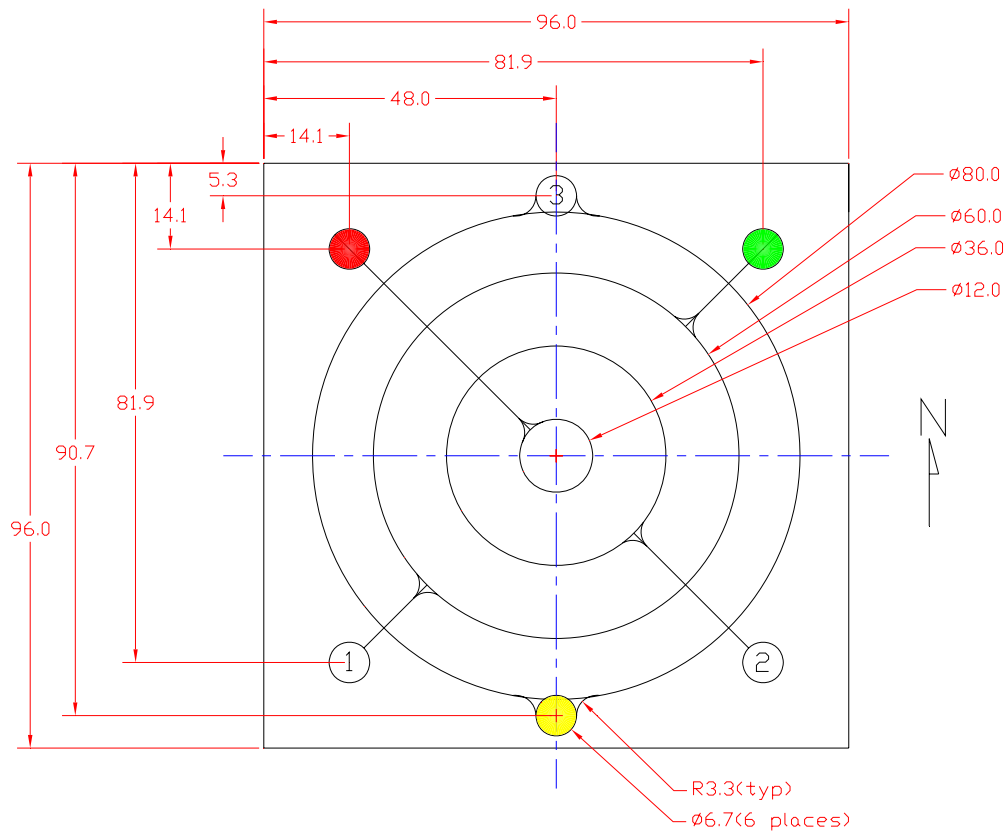

Figure 1 “Solar System” course layout (dimensions in inches).
2.1.1 Course layout: Figure 1 shows the layout of the course, a “solar system” having four (4) large concentric circles and six (6) smaller circles. The six smaller circles represent cargo areas. Three of the cargo areas are labeled 1, 2, 3 while the other three areas are color coded. The robots must pick up the cargo from one of the numbered areas and place it, based on color, in the appropriate colored area.
- 3.6 Penalty for leaving course boundary:** If any portion of the robot leaves the boundary of the course as defined in Figure 1 the robot will be disqualified for that run. No score will be given for that robot’s run.